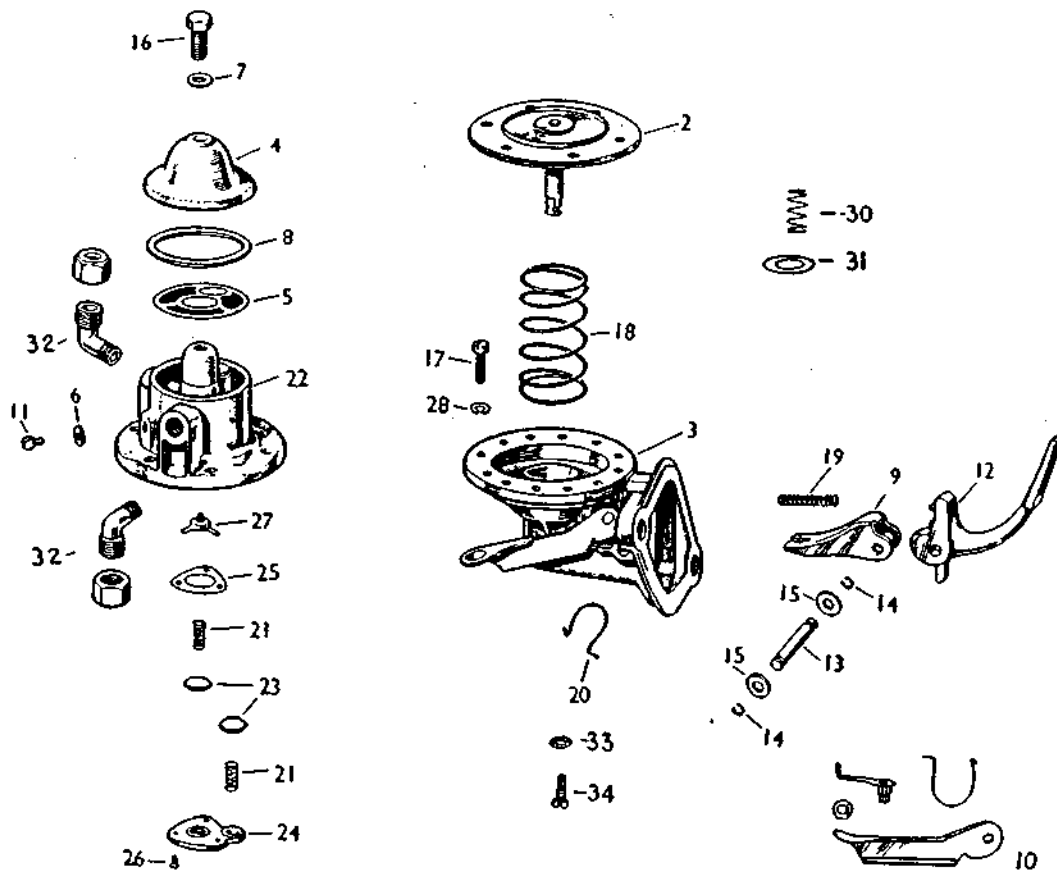

Fig. 8.
**Inspection of Parts.** (Reference numbers apply to Fig. 8).